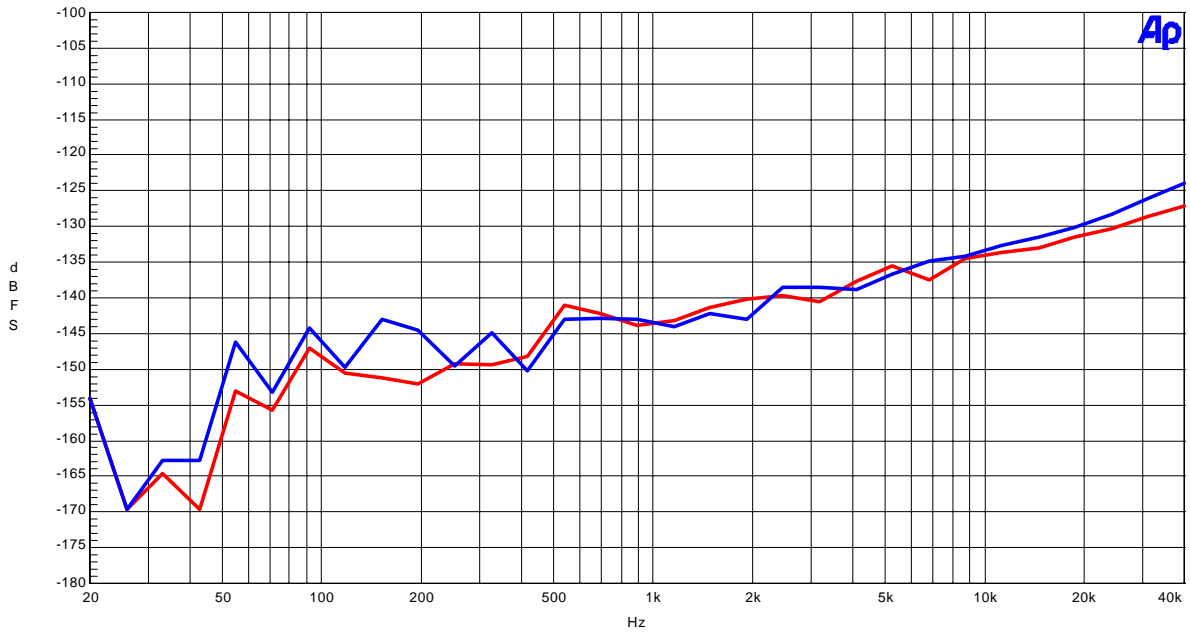

Figure 1-2-8. Cross-talk (-1dB input)
- Figure 1-2-8. Cross-talk (-1dB input)